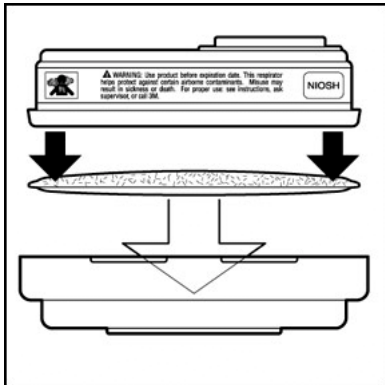

Fig. 3
1. Place filter into 3M™ 501 *(07054) Retainer so printed side of filter faces the cartridge. (Fig. 3)